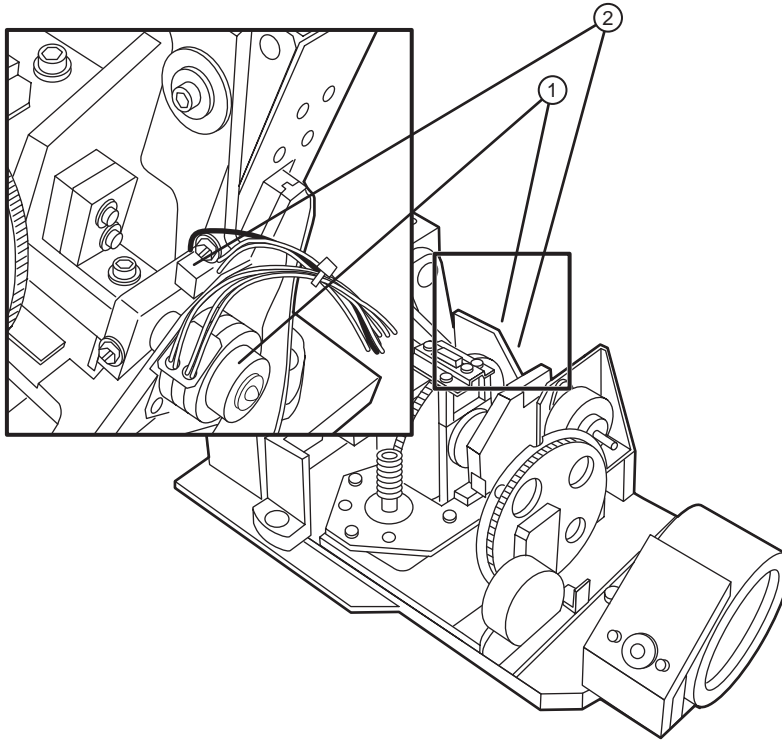

Figure 4-36 Compressor motor location.
4. Remove the two (2) hex screws securing the compressor motor to the SGM casting. Refer to Figure 4-36.